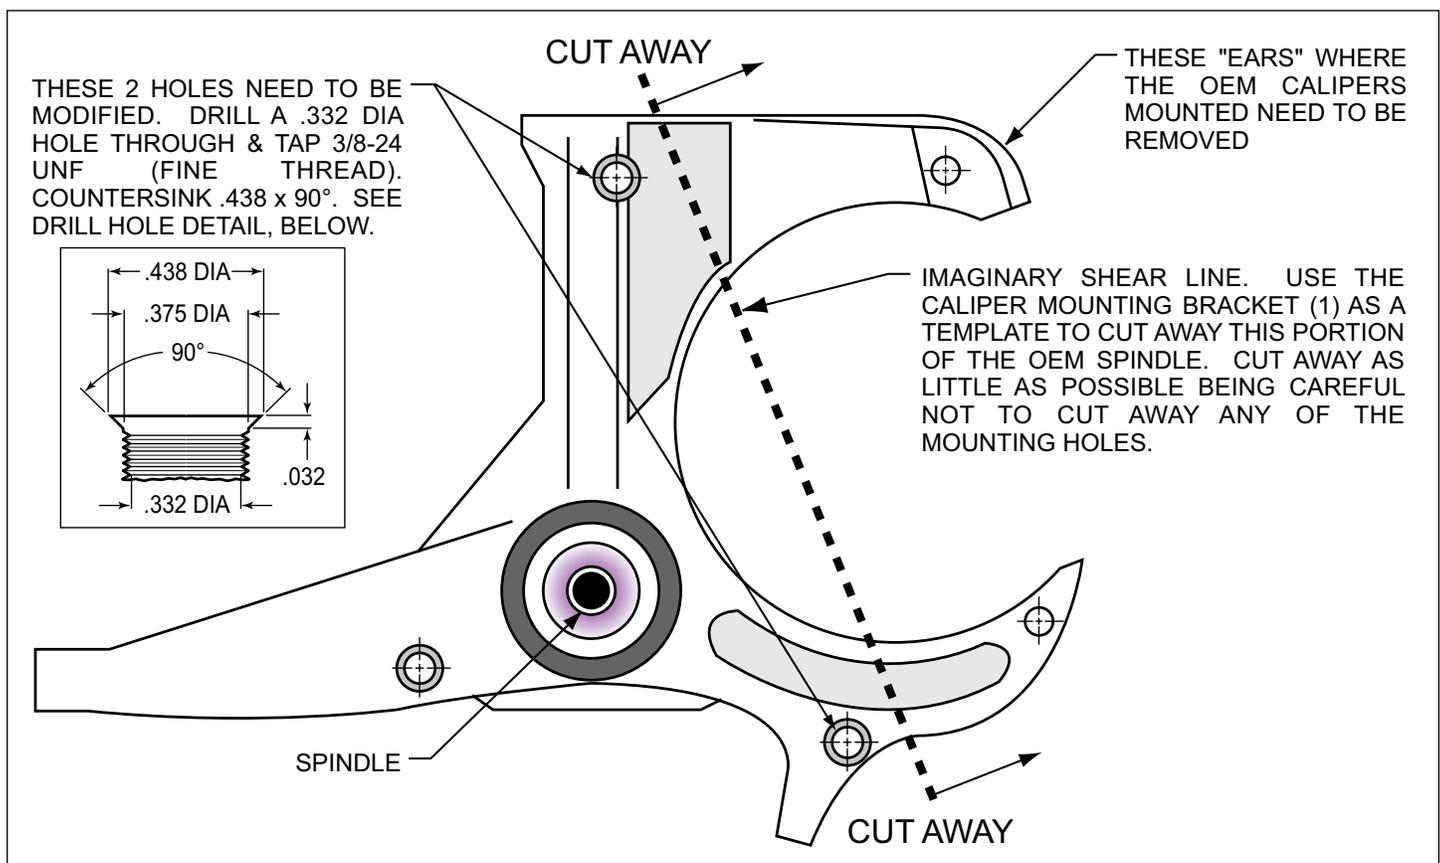

Figure 1. Steering Arm / Spindle Modifications
NOTE: These modifications should be performed by a qualified machinist and completed before assembly of the Wilwood disc brake kit begins. Refer to Figure 1 on the following page as necessary (numbers in parenthesis refer to the parts list on page three). Only one view of the steering arm/spindle is shown, but the modifications need to be performed on both steering arm/spindles.
The two OEM holes that will be used to mount the caliper mounting bracket (1) need to be modified. Drill a .332 diameter hole through both holes, Figure 1, then tap 3/8-24 UNF (fine thread). Countersink the holes to .438 x 90°. The "ears" that protrude to form a "C" shape need to be removed to facilitate the installation of the Wilwood kit. Using the bracket as a template, mark two cut marks on the steering arm. Remove as little as necessary from the "C" shape, being careful not to cut away any of the mounting holes required to bolt on the bracket.
NOTE: Numbers in parenthesis refer to the parts list and Figure 1 on the preceding pages.